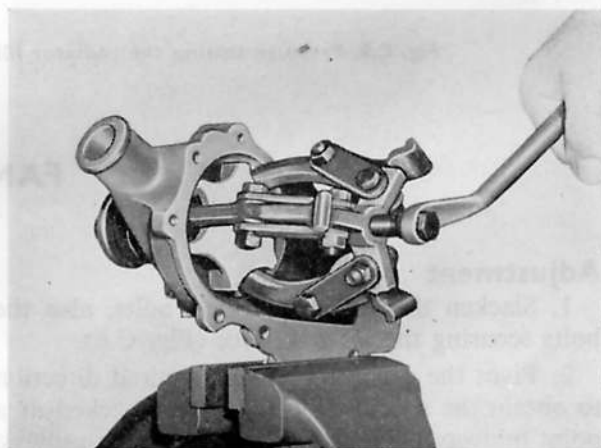

Fig. C.7. Use a three-legged drag to remove the rotor
4. Withdraw the rotor, using a three-legged drag (Fig. C.7).